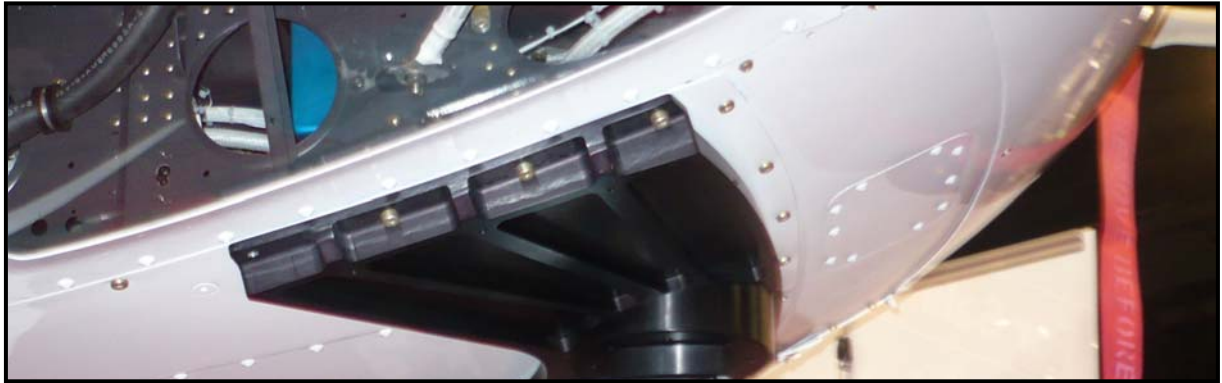

Figure 4.1.2 Mount Installation looking at right side
- 4.1.2 Install AF412NM-1 Nose Mount using quantity 8, AN4-10 Bolts and AN960-416 washers (4 places typical on each side of mount) per Figure 4.1.2.
4.2.1 Remove quantity 8, AN4-10 Bolts and AN960-416 washers (4 places typical on each side of mount) per Figure 4.1.2.